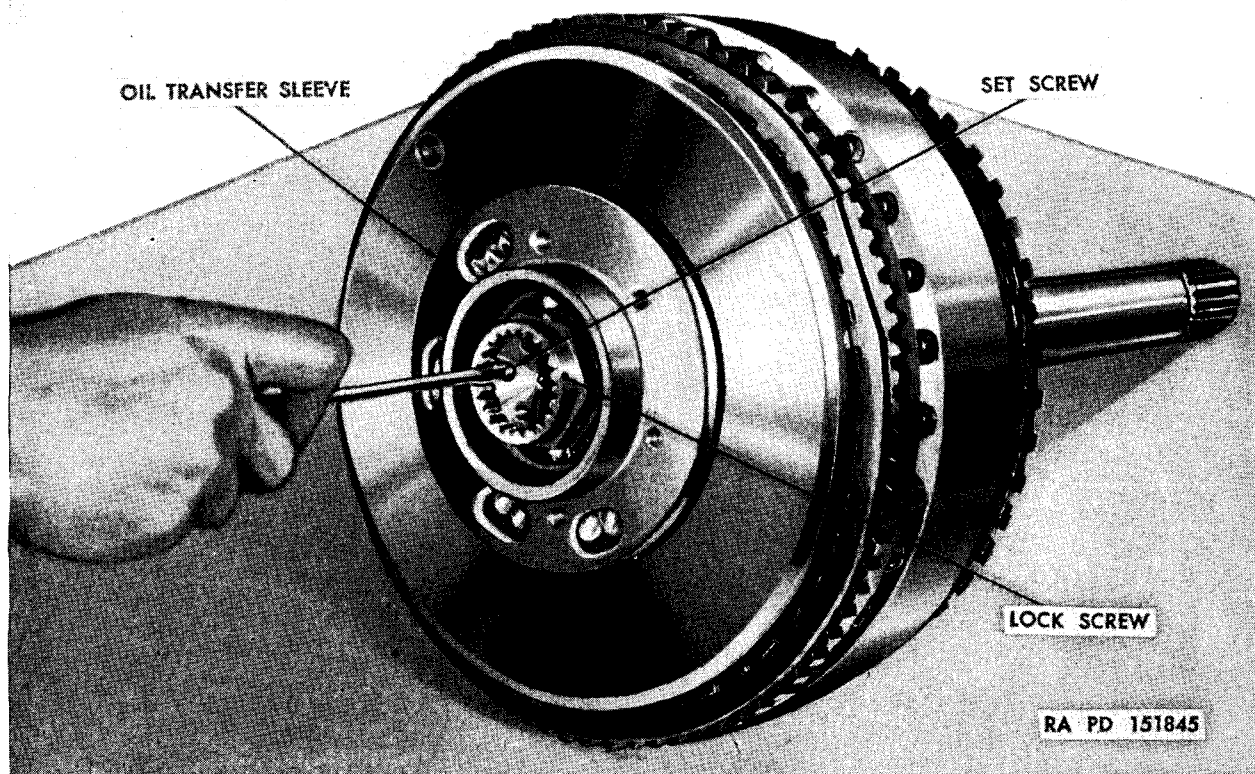
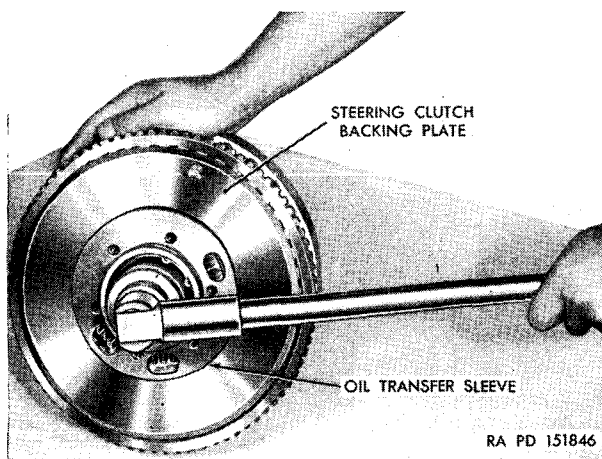

Figure 106. Removing or installing setscrew.
Figure 107. Removing or installing lock screw.
a. Remove one $\frac{1}{4}$ -inch setscrew, using a screwdriver, from the face of the steering-clutch-shaft-rear-bearing lock screw (fig. 106). Remove the steering-clutch-shaft-rear-bearing lock screw, using a $1\frac{3}{4}$ -inch wrench (fig. 107).